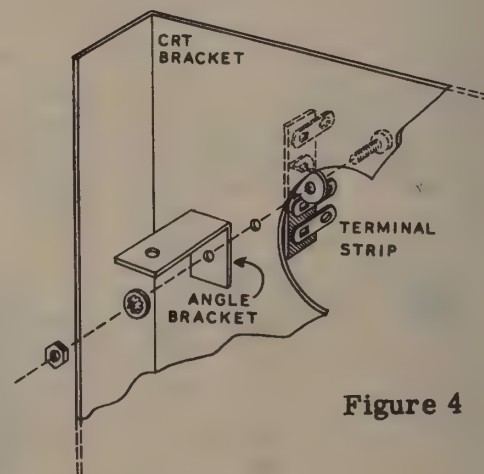

Figure 4
- (✓) Referring to Pictorial 2 and Figure 4, mount the 4-lug terminal strip on the CR tube support bracket at G. Be sure to include one of the small angle brackets as shown.